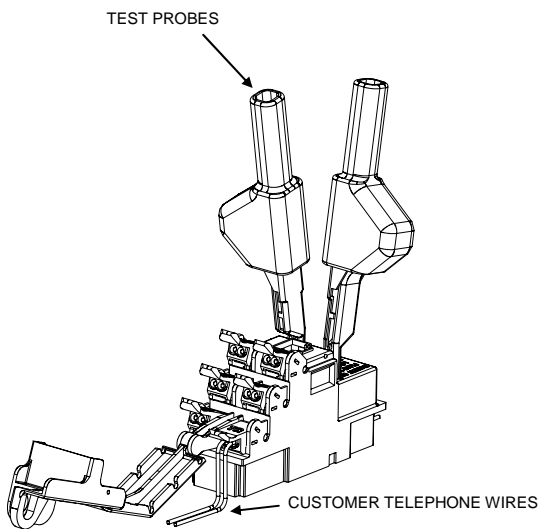

Figure 3
- 4.1.3 Lift all rockers to the up position. Insert customer telephone wire into rocker wire guides as shown (see Figure 3).
- 4.1.5 Using an ohmmeter, insert probes into test ports as shown (see Figure 3), and check for continuity.